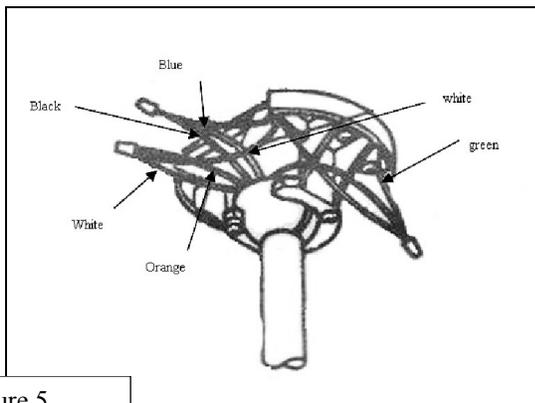

Figure 5
- Attach the GREEN wire (connected to the half ball) to the GROUND wire in the junction box. The GROUND wire is usually a bare copper wire without plastic insulation. It could also be covered in green plastic insulation or attached to the metal junction box in the ceiling. (figure 5)
- Fold the connected wires (figure 5) and push them up inside the electrical junction box with the black and blue wires to one side and white and orange wires to the other side.